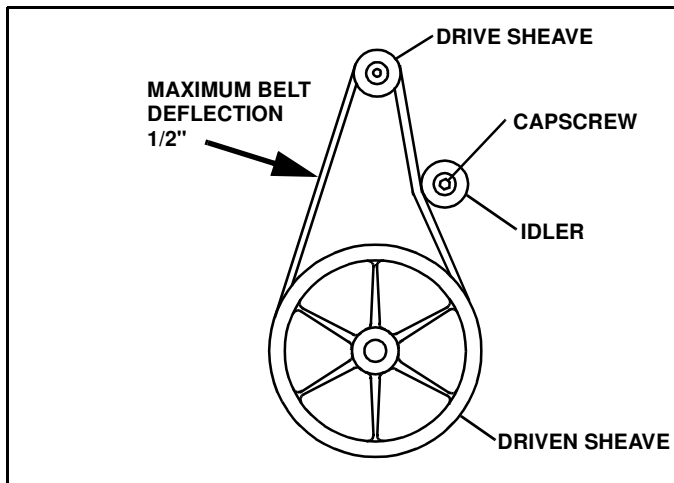

Figure 2-5
7. Loosen cap screw/nut retaining belt tensioner to crossbrace. (See Figure 2-5)
8. Adjust idler until belt opposite idler has 1/2 inch deflection. (See Figure 2-5)